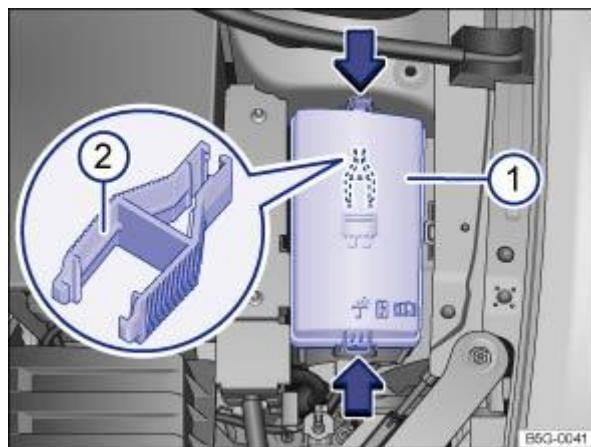

Fig. 172 In the engine compartment: cover ① of fuse box with plastic pliers ②.
- Press the release buttons in the direction of the arrow ⇒ Fig. 172 ① to release the fuse box cover.
In some vehicles, there is a pair of plastic pliers ⇒ Fig. 172 ② for removing fuses on the inside of the cover of the fuse box in the engine compartment.